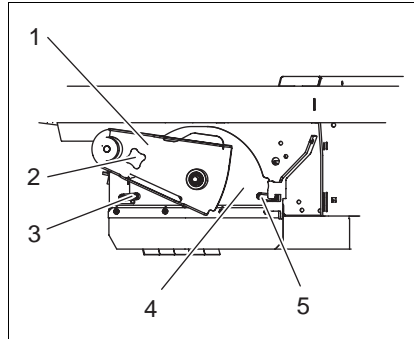

Fig. 11 Dismount Cylinder broom
- Loosen star knob (Fig. 11/2) and remove
- Remove cylinder broom seating (Fig. 11/1)
- Turn handle (Fig. 11/3 + 5) upwards and unlock
- Remove plate with sealing strip (Fig. 11/4)